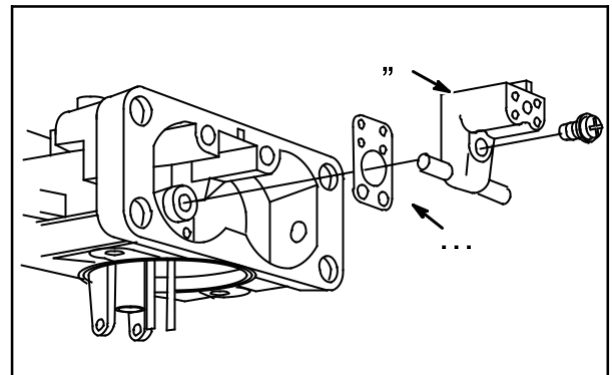

Fig. 125
Install nozzle body (4) with new gasket (5), **Fig. 125**. Tighten screw securely.